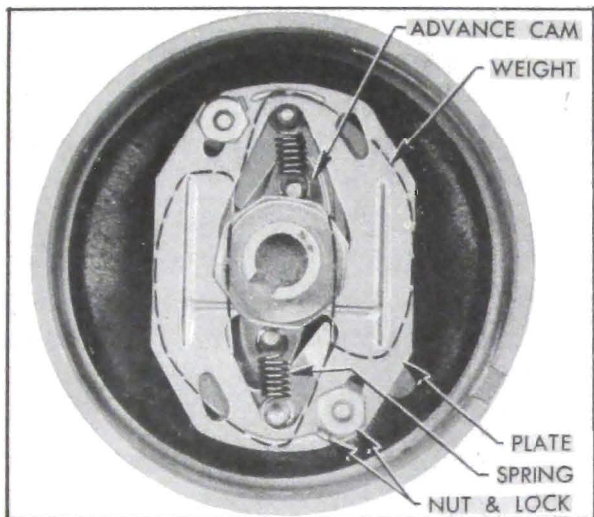

Figure 10-62—Installation of Advance Weights, Cam, Springs and Plate
7. Remove advance weight plate, springs and weights from the shaft plate. Remove advance cam from shaft. See figure 10-62.
2. Place plate over weights with ridged side down against weights. Install locks and nuts and bend tongue of locks up against nuts. Install advance weight springs on pins. See figure 10-62.